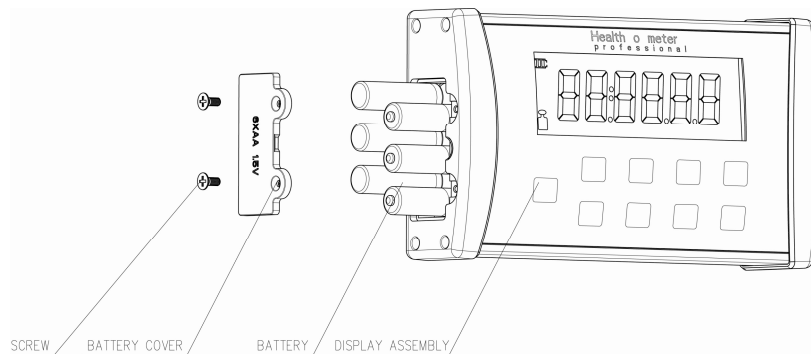

Figure 9
2. Place batteries into the display head. (See “Batteries” information in Figure 9, below).
2. Remove the battery cover on the side of the display head by unscrewing the (2) battery cover screws (see Figure 9).